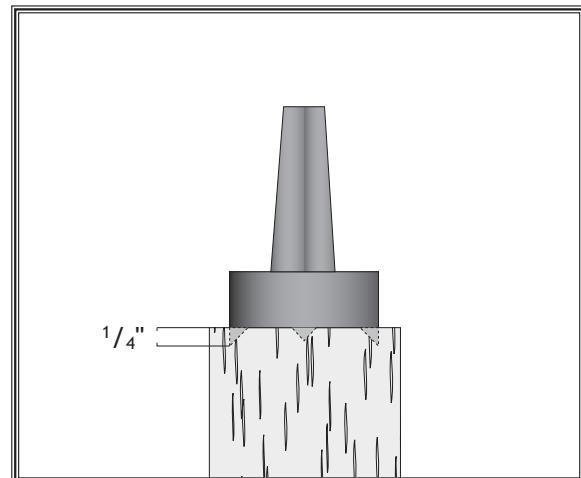

Figure 20. Spur center properly embedded.
5. Drive the spur center into the center of the workpiece with a wood mallet to embed it at least $1/4"$, as shown in **Figure 20**.